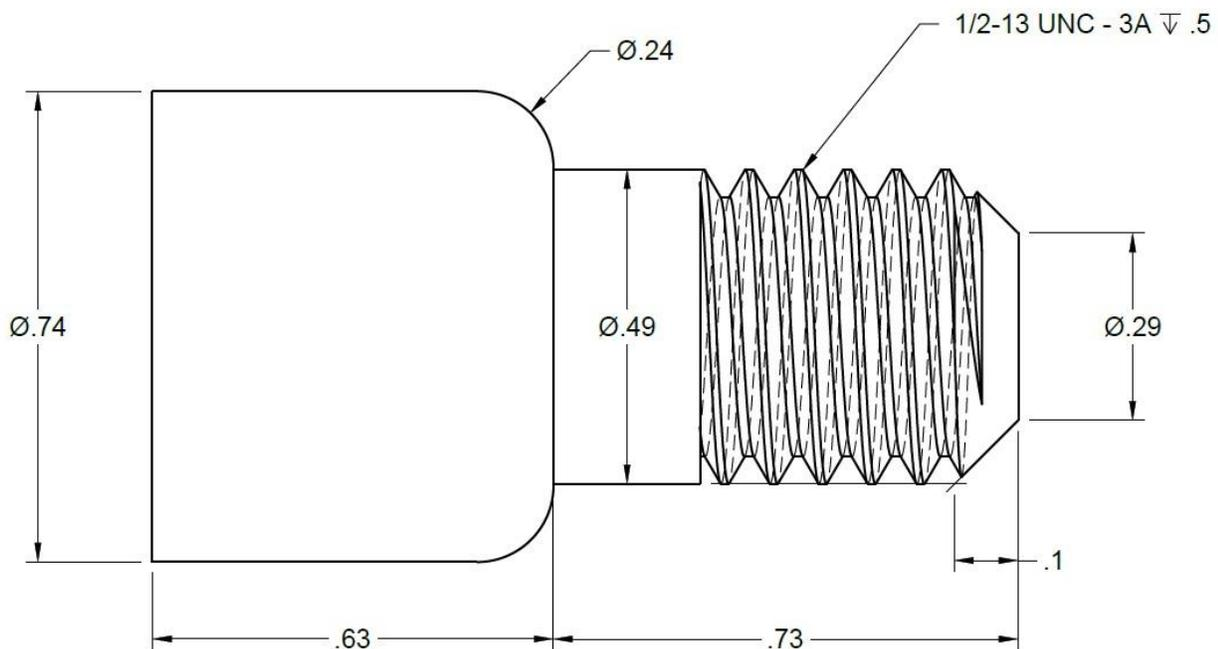

Figure 25
- Reference the part drawing (Figure 25) as you proceed through the following steps.